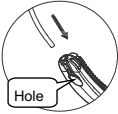
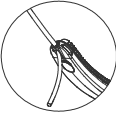

Fig.25
Fig. 26
1. Put the elastic strap through the hole on the tip of the bag holder wing as shown in Fig. 25 and Fig.26.